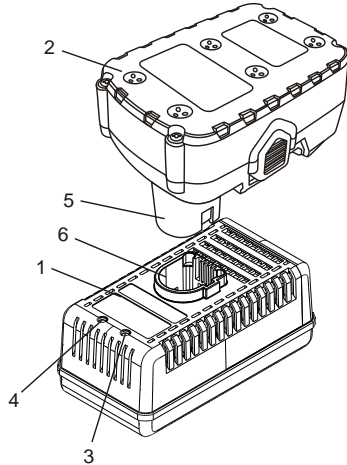

Fig. 1
1. Place the battery charger (1) in a dry location near a 120 V 60 Hz electrical outlet (Fig. 1).
2. Plug the battery pack (2) into the 120 V 60 Hz wall receptacle.